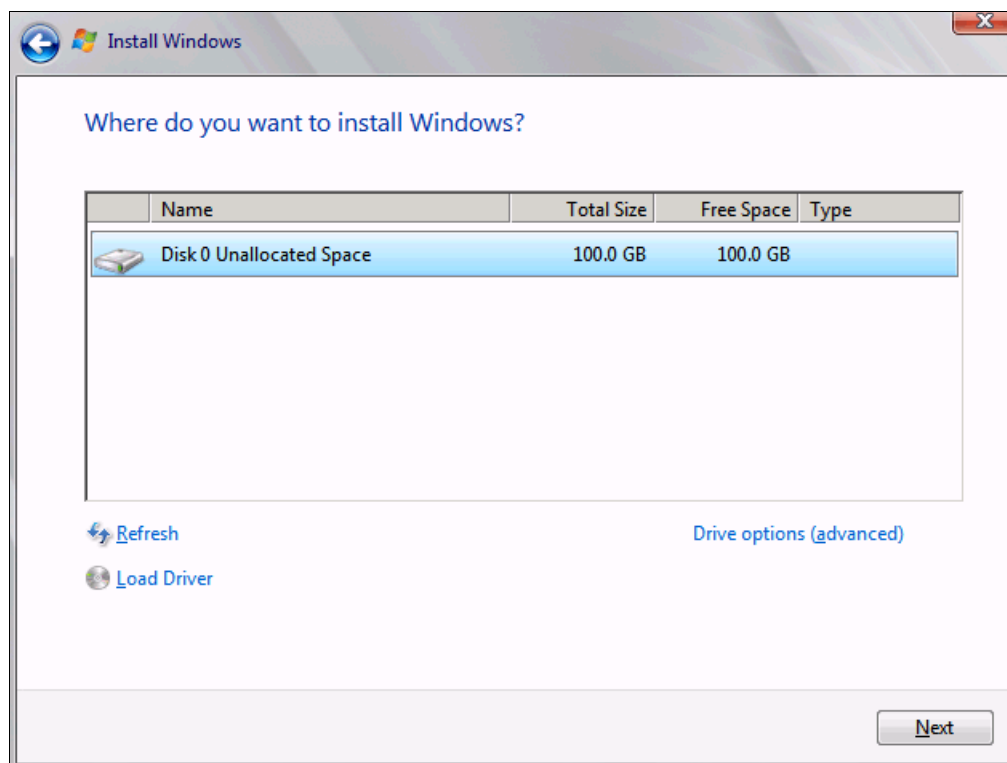

Figure 9-98 Selecting the LUN to install Windows
15. In the “Where do you want to install Windows” panel (Figure 9-98), when you see your LUN, select the disk, and then click **Next**.